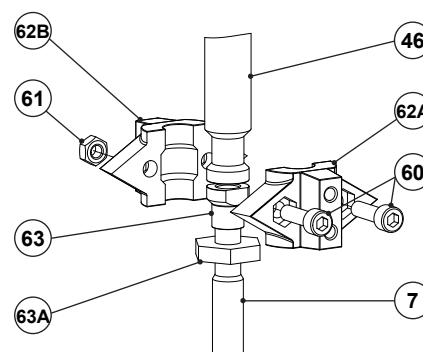

Fig. 7
1. Fasten the lock nut (63A) and adaptor (63) onto the valve stem (7) until the female thread of the adaptor is no longer visible.
2. Manually push the valve stem (7) downwards until the plug touches the seat.
3. Carefully place the manual operation top yoke over the valve stem, aligning the cylindrical pin (31A), and lower it until the lower actuator flange (31) touches valve bonnet (5) shoulders.
4. Align the yoke columns and secure the manual operation top with the actuator lock nut (9) using a c-hook wrench and a soft faced hammer – see section 9.9 – Tightening torques.
5. Place the actuator stem (46) above the adaptor (63) and secure it by fitting the two coupling halves (62A, 62B) and clamping them together, tightening the two bolts (60) and nuts (61) tightly. See Fig. 7.
6. Fit the spring (45), spring carrier (33A) and upper actuator flange (33).
7. Slowly and uniformly tighten the two bolts (34) until the recommended torque is achieved – see section 9.9 – Tightening torques.
8. Fit the lever (70) in the yoke lever column (32B) and assemble the rollers (74) with the elastic rings (75).
9. Position the rollers below the lock nut (63A) and align the center hole of the lever (70) with the mating hole on the yoke lever column (32B).
10. Insert the lever axis shaft (72) on the assembly and fix it with the elastic rings (73).